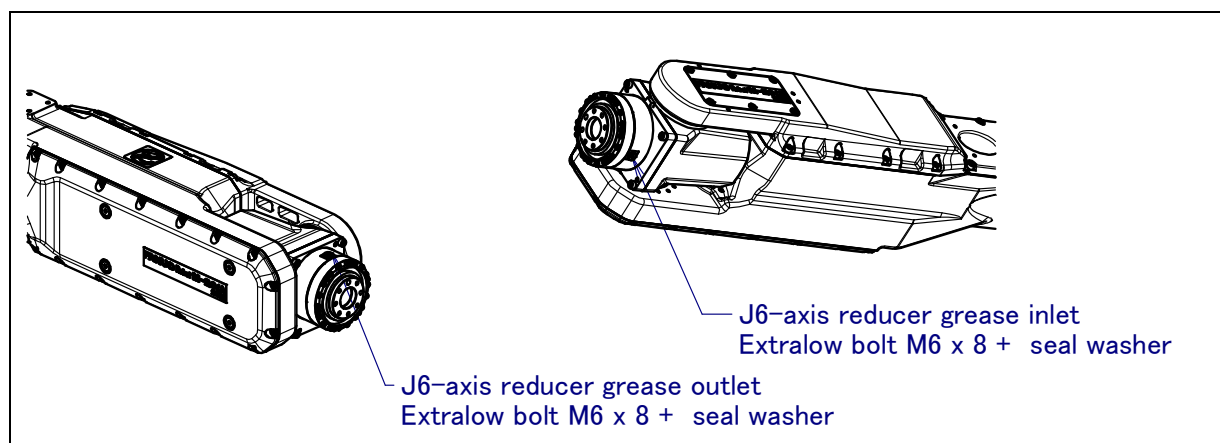

Fig. 8.3.2 J6-axis grease supply position
- 2 See Fig.8.3.2 and Table 8.3.2 for greasing points and the method.